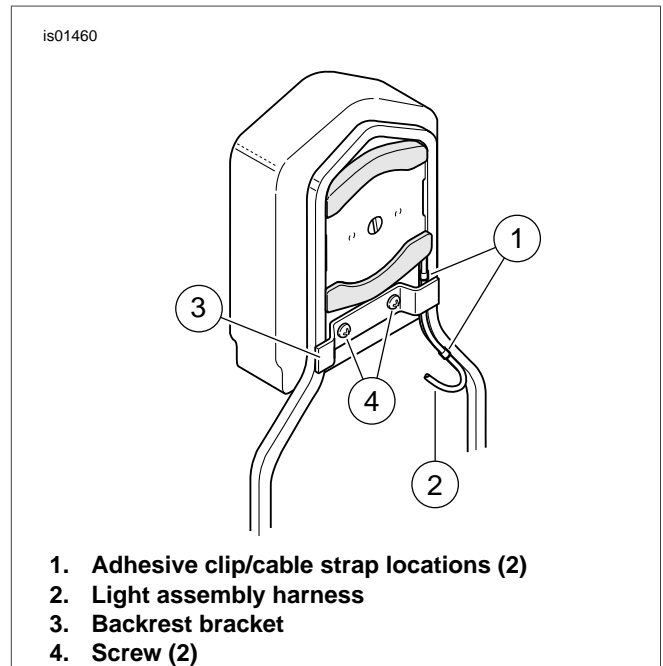

Figure 5. Install the Backrest Bracket
5. See Figure 5. Secure the harness (2) to the sissy bar upright with adhesive-backed metal clips or cable straps at locations (1) near the lamp assembly and the side plate.